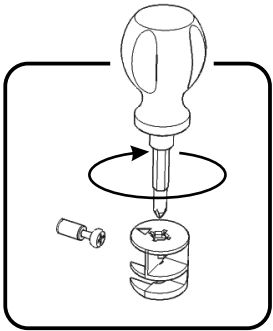

Figure 2
Attach Side Panels (C) and (D) to unit with Cam Locks, Flat Washers, Spring Washers and Head Cap Bolts. (See Figures 2 and 3)